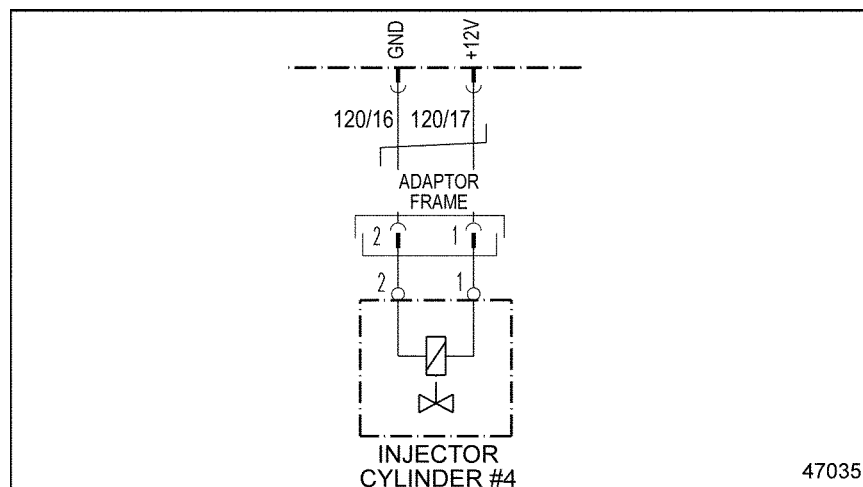

Figure 27-1 **Injector #4**
4. Measure the voltage between pins 1 and 2 of injector #4. See Figure 27-1.